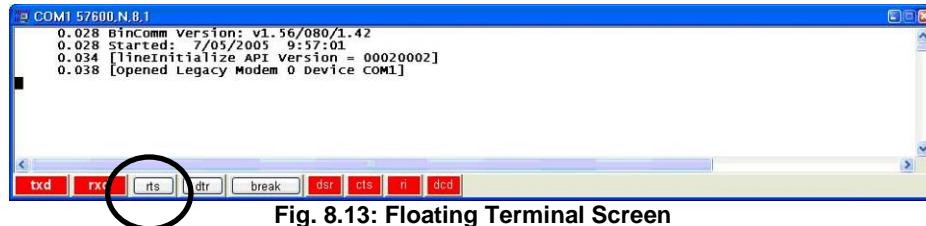

Fig. 8.13: Floating Terminal Screen
- 8.7.2 On the floating terminal screen, click on assert **rts** button to awaken DataHub from sleep mode. Fig. 8.13